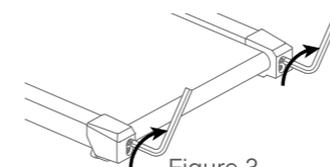

Figure 3
2. Using the hex tool, turn both idler roller screws clockwise **1/2** of turn(refer to figure 3).